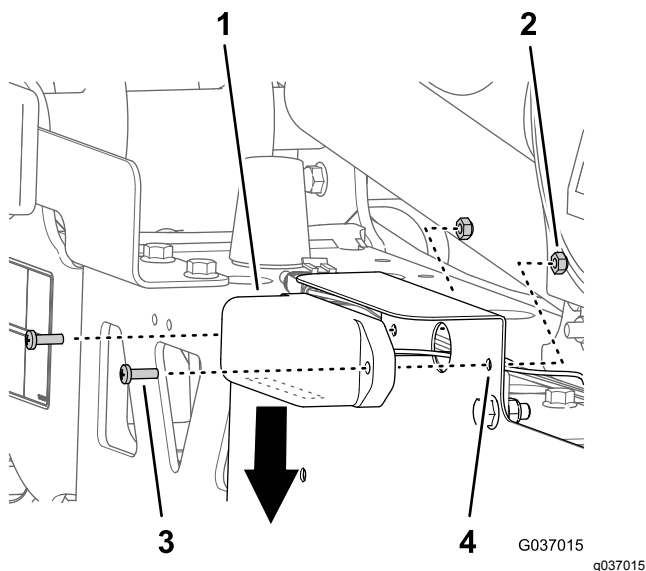

Figure 55
2. Align the lens for the light down and the holes in the light with the holes in the license-plate bracket (Figure 55).
3. Assemble the light to the bracket (Figure 55) with the 2 screws (#10 x 5/8 inch) and 2 locknuts (#10).